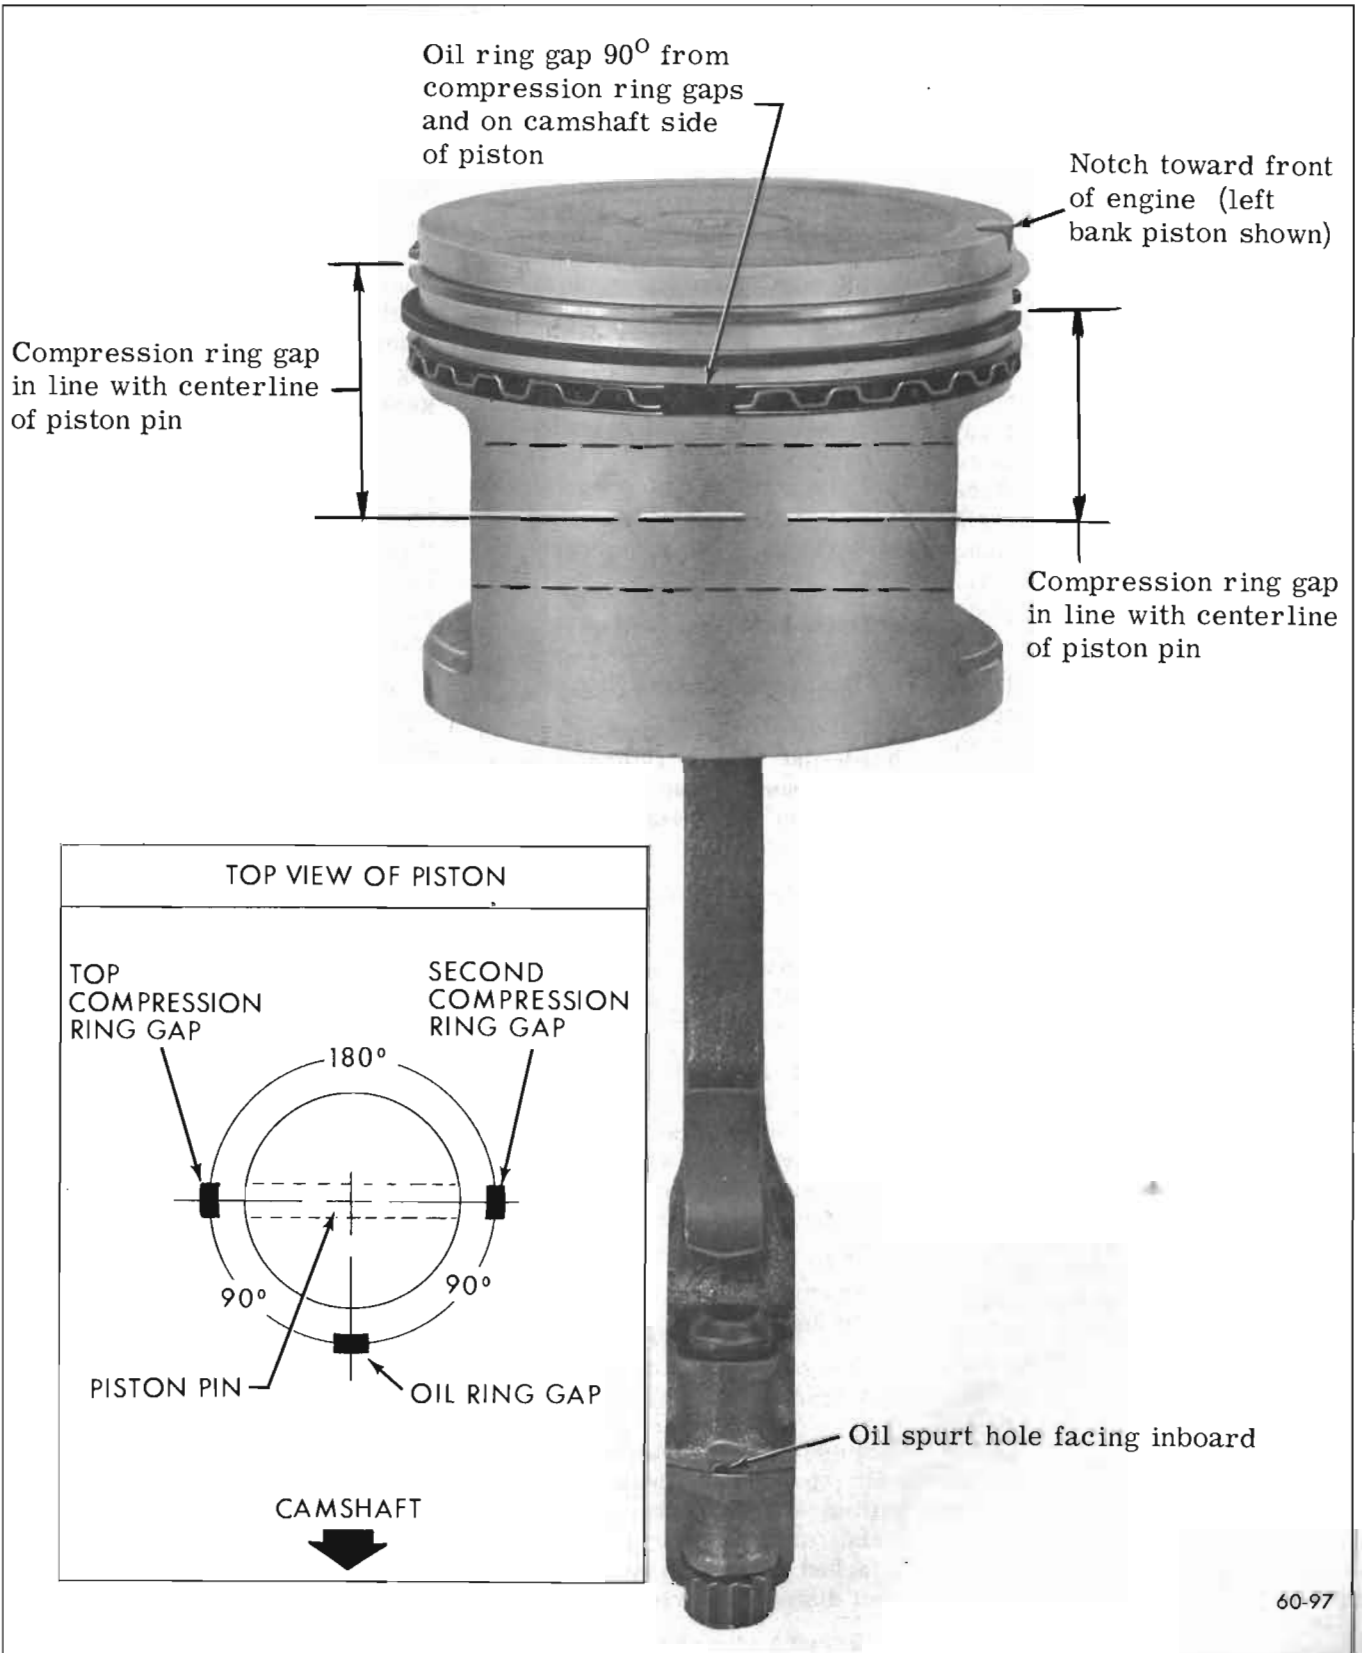

Figure 60-97—Piston Ring Gap Positioning
d. Ring gaps - All three ring gaps must be 90° apart. See Figure 60-97.
12. Make sure the gap in the oil ring rails is "up" toward center of engine and the gaps of the compression rings are positioned as shown in Figure 60-97.